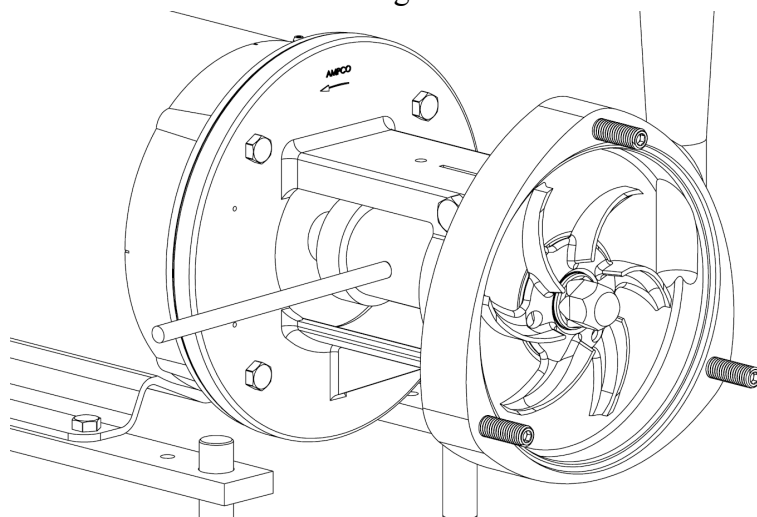

Figure 2
4. Insert a 3/8" bar in the hole in the stub shaft. See figure 2. Turn the impeller nut with a socket wrench counterclockwise to remove the impeller nut.